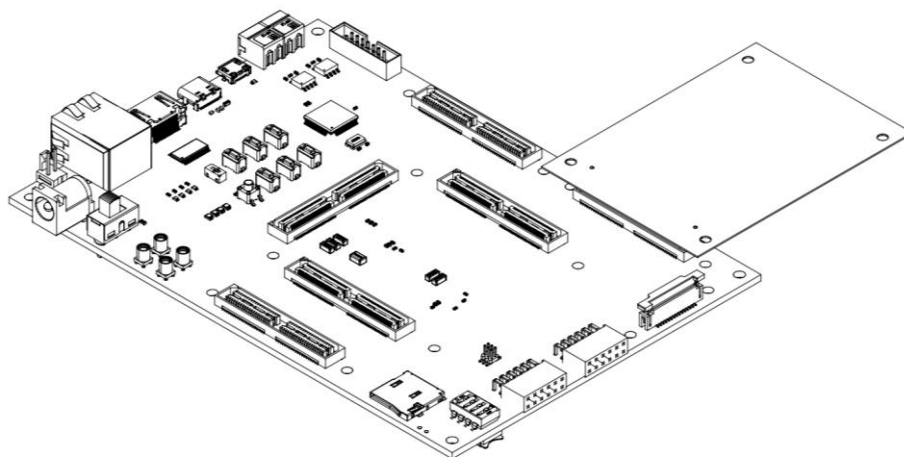

Figure 16: FPIC carrier and module Placement (PCB Edge)
2. Figure 16 shows the fully assembled mechanical interface between the FPIC module and the carrier board.